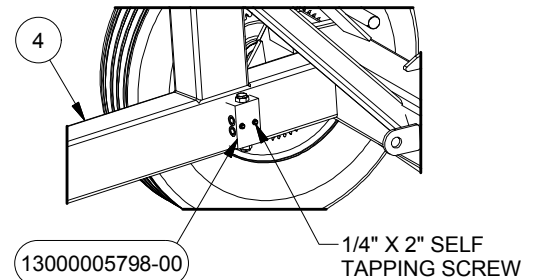

FIGURE 2
2. Attach the Check Valve PN# 5798 in to the Main Frame using Self Tapping Screws. Fasteners can be found in Bolt Bag PN# 7303/ 7304/ 7305 as shown in Figure 2.